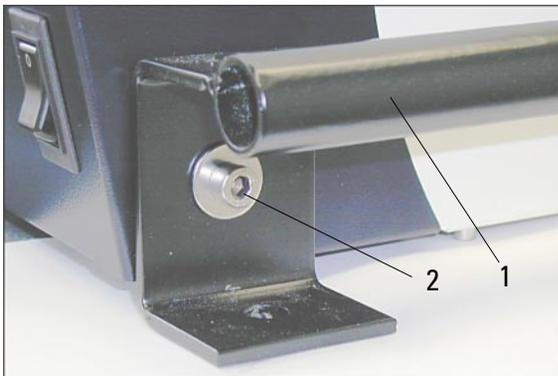

Fig. 5
- To lift, grip the instrument by the carrying handles (1, Fig. 5).